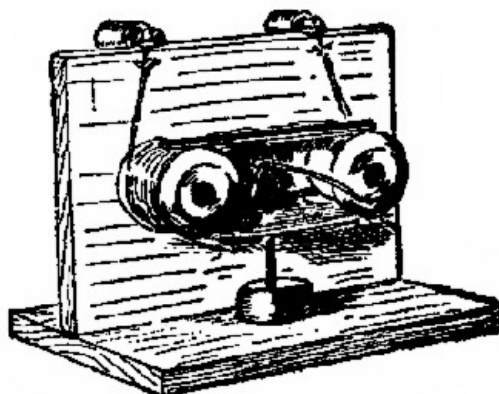

Fig. 85.
167. *Current Detector*. Fig. 85. This is more troublesome to make than App. 111, but perhaps it looks more scientific.
The *binding-posts*, shown in Fig. 85, are not to be advised. It will be better to use those of App. 45. The *magnetic needle* is supported by a sewing-needle stuck through a cork. This may be fastened to
**169.** It is often troublesome to turn the apparatus around until the needle becomes parallel to the length of the coil. To avoid this, a small bar magnet, shown in the Fig. 85, may be laid on top of the coil. A magnetized sewing-needle will do, and this will keep the magnetic needle quiet and parallel to it when the current is not passing through the coil. Of course, it takes a little more current to move the magnetic needle when the bar magnet is in place, than it does without the magnet.
**170.** By allowing the current to enter the right-hand binding-post, as you look at it from the front (Fig. 85), it will go around the coil in the direction of the hands of a clock, that is, from left to right on top. This, of course, is not necessary to merely detect the presence of a current. In order, however, to determine the direction of currents by means of a magnetic needle, study the effect with a single turn of wire at first. (See text-book.)